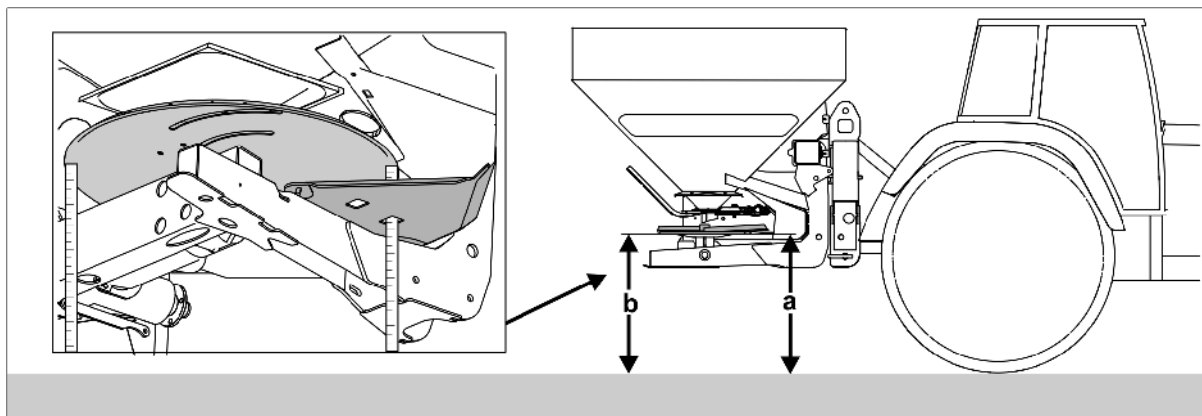

Fig. 55
4. Secure the upper link pin (Fig. 55) with the spring-loaded, automatic-action retaining latch to ensure that they do not accidentally come loose.